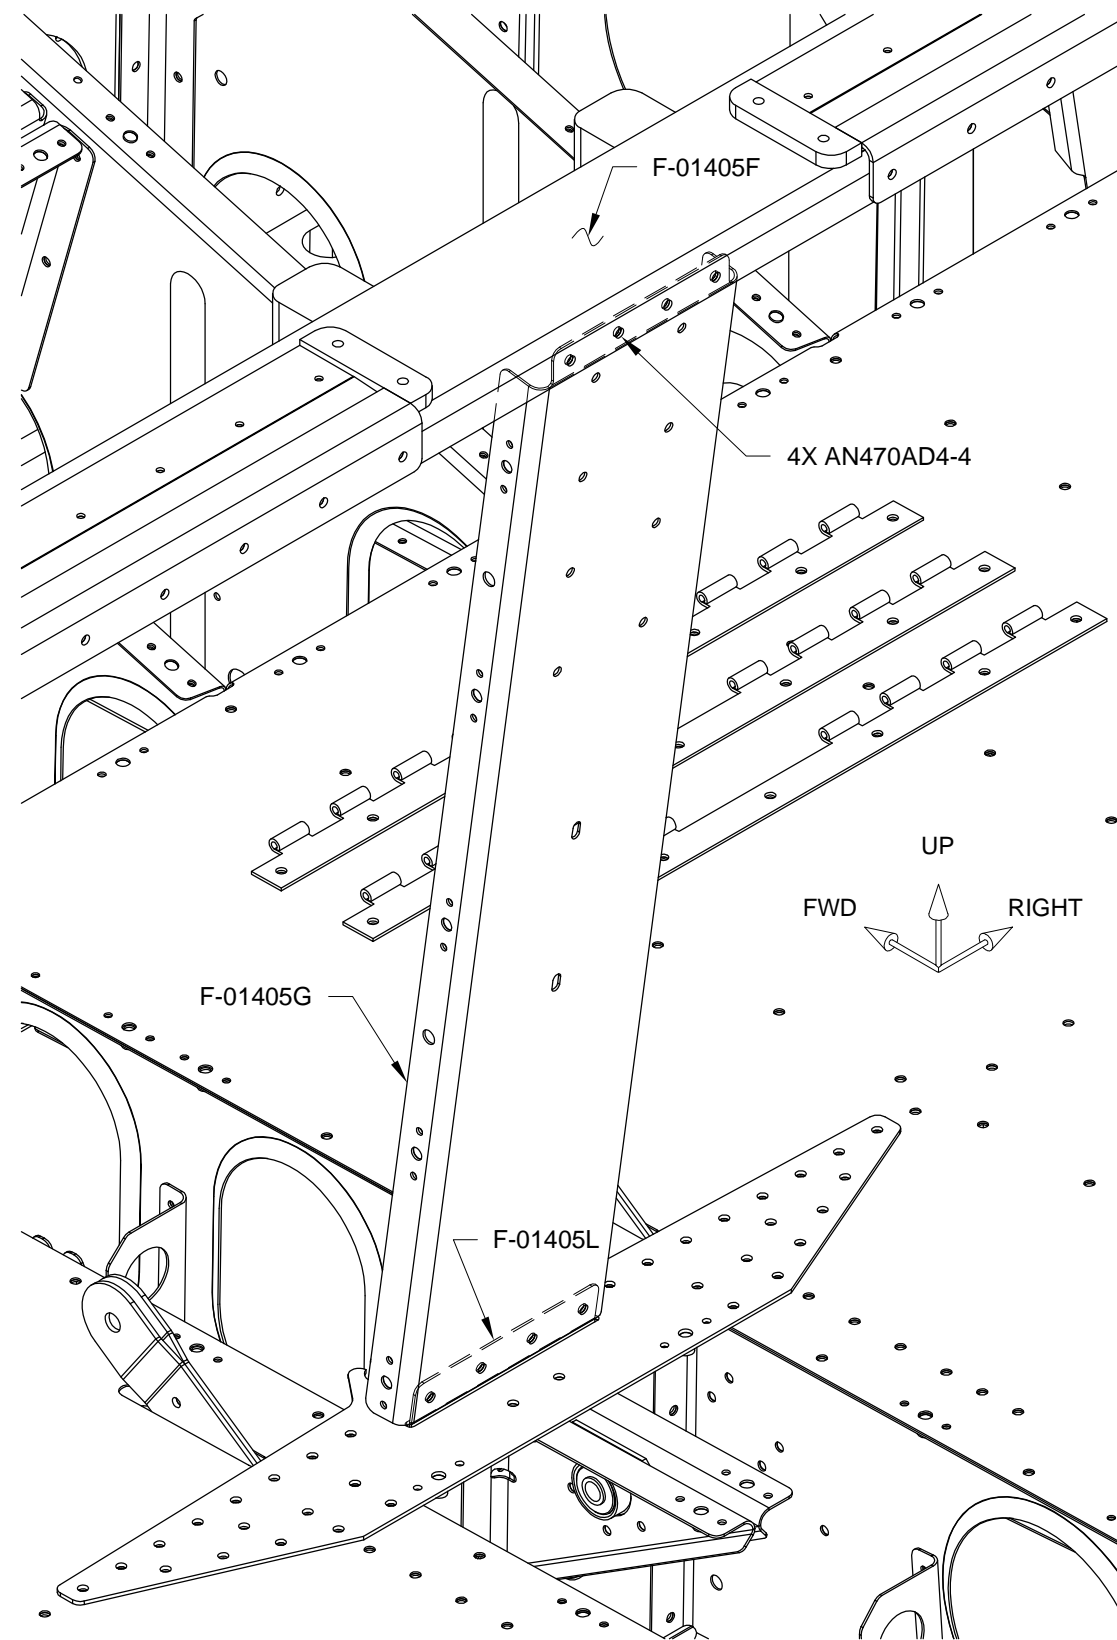

FIGURE 1: INSTALL FLAP MOTOR CHANNEL
Step 1: Rivet the upper flange of the F-01405G Flap Motor Channel to the F-01405F Mid Fuse Brace as shown in Figure 1.